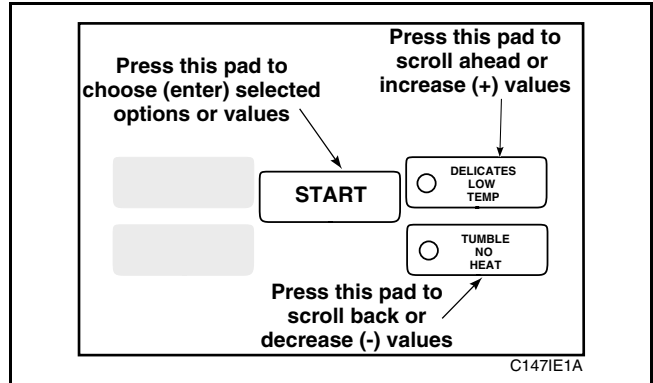

Figure 51
- Press the LOW TEMP (+) pad or the NO HEAT (-) pad to increase or decrease the current three-digit number to the desired three-digit number in from Chart 4, *Figure 51*.